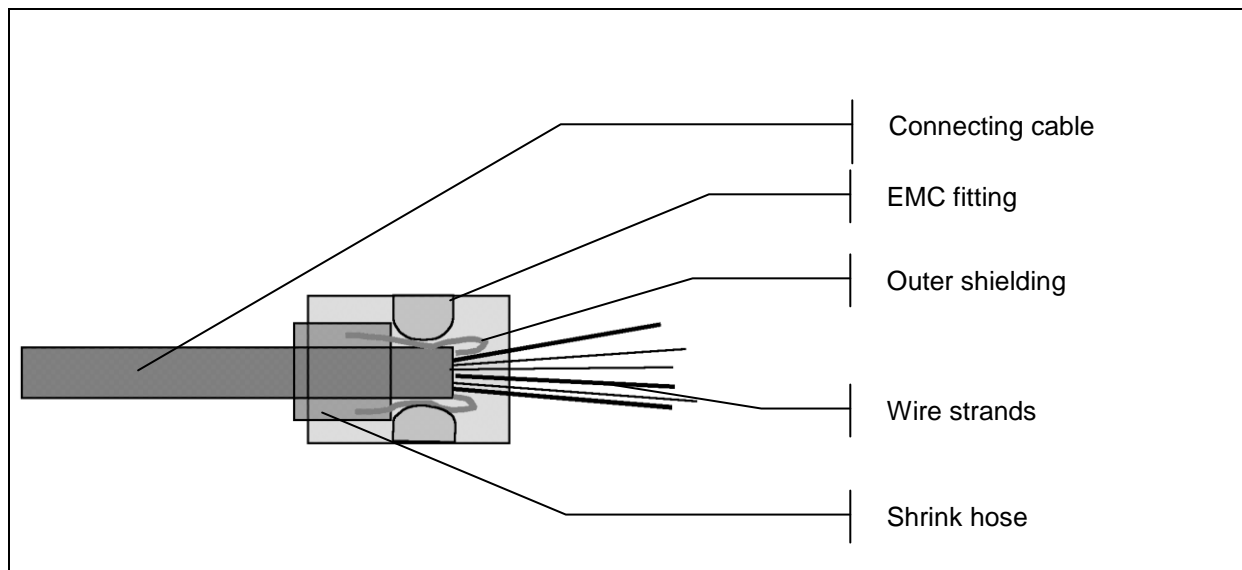

Figure 8 EMC fitting
1. Loosen the screws (/1/) for the connection cap (1) with a hexagon socket wrench (size 3).
2. Detach the connection cap (1) from the module.
3. Carefully unscrew the screws (7) for the board (2) with a hexagon socket wrench (size 2.5).
4. Carefully remove the board (2) from the connection cap (1) and place it safely to one side.
6. Pull the connecting cable through the metric cable fitting (10).
10. Fix the shielding in place with shrink hose in such a way that the shielding remains visible at the end of the sheath. (see Figure 8, page 22)
11. Pull the connecting cable through the connection cap (1) and connect the board (2) according to the required interface. (see chapter 8.3.2, page 23)
12. Pull the metric cable fitting (10) over the shrink hose so that the individual wires are still visible. (see Figure 8, page 22)
13. Screw metric cable fitting (10) onto connection cap (1).
14. Carefully slide the board (2) back into the connection cap (1).
15. Carefully tighten the screws (7) on the board (2).
16. Replace the connection cap (1) on the module and tighten the screws (/1/) to a maximum of 3 Nm.